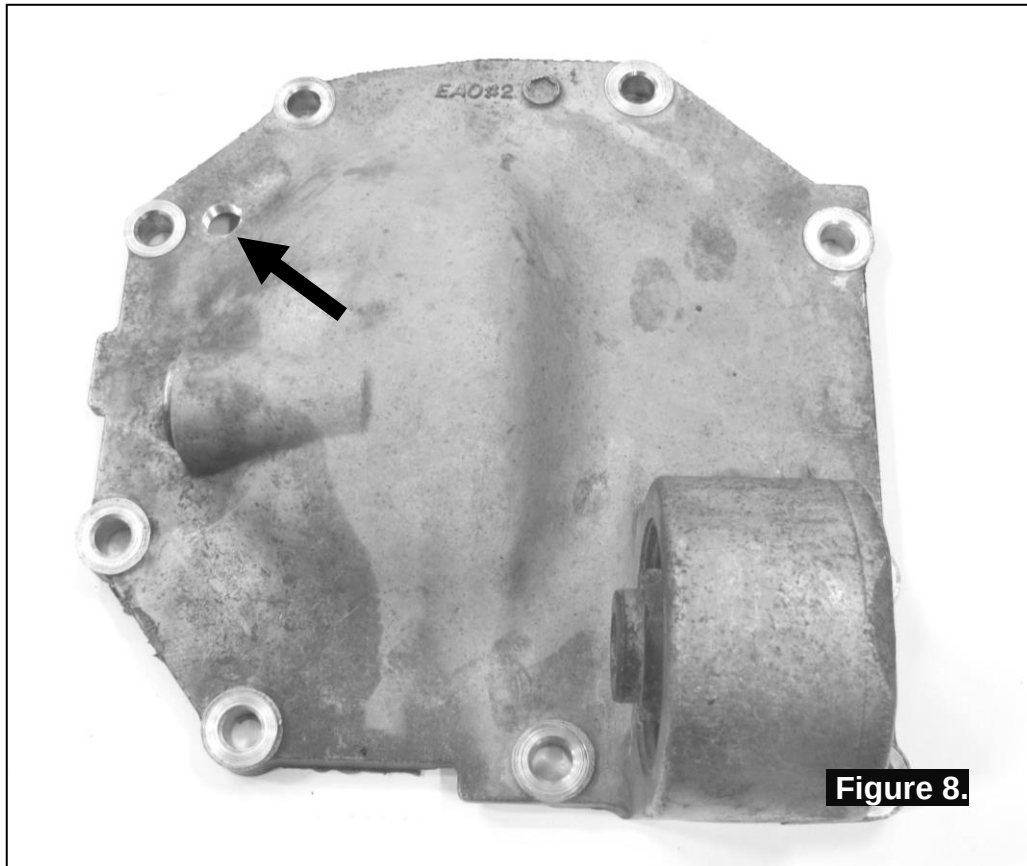

Figure 8.
- ☐ Mark a spot on the exterior of the differential cover plate in the position shown in Figure 8. (i.e., toward the 10 o'clock hole, in the flat area that will be accessible from the outside and clear of all moving components inside).